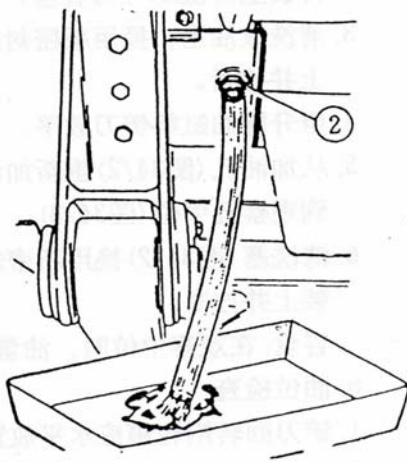

Fig. 36
4. Loosen the nut (Fig.36/2) on the bottom of the oil tank by a few turns and let oil drain into a container. Screw the nut if oil is drained off;
Attached note: Connect the nut with flexible tube (Fig.36/2) to control draining oil.
5. Fasten the nut (Fig.36/2);